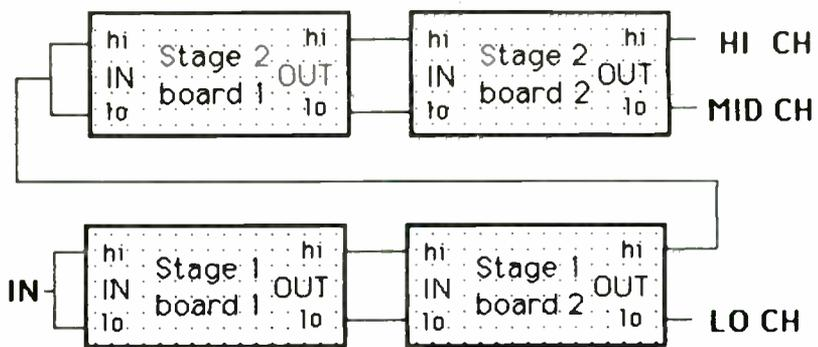

FIGURE 4: How to connect rumble filter boards for a fourth-order three-way crossover network.
**FOURTH-ORDER APC.** Since the rumble filter kit is limited at most to third-order filters, two kits are needed for each stage. So, the formulas for each stage are divided into two groups, one for stuffing board 1, and the other for board 2. Once the four boards are completed, they are connected as in Fig. 4. Luckily, there is only one possible network.